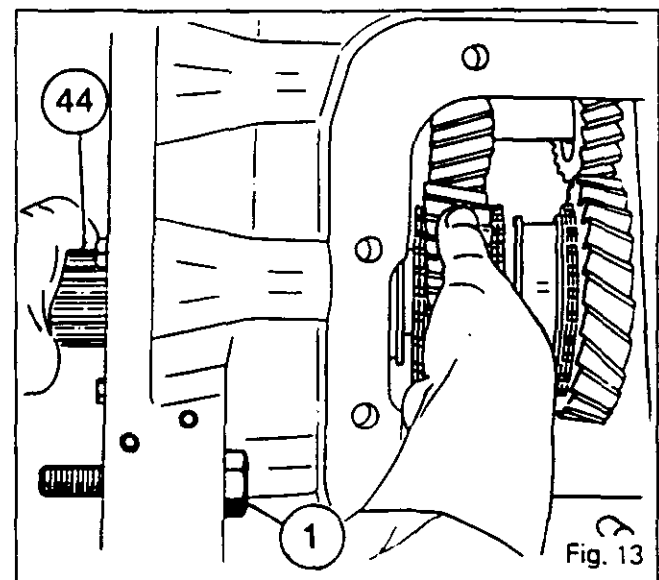

Fig. 13
3. If necessary, remove the bolt (1) (see Fig. 13).
39. Remove the circlip (45).
42. Remove the bolts (41) and the locking ring (46).
43. Remove the cup (48), cones (40) and (39), and the shaft (44).
44. Fit the following in the housing: the Tortoise gear (36), the synchromesh and its rings (33) and (74), the thrust washer (32), the gear (29) with its needle-roller bearings (30) and (28) and its synchromesh cones (75) and (76), thrust washer (27) and synchromesh ring (25).
- Note:** If bush (35) shows signs of wear, replace the complete gear assembly. (The bush is reamed after fitting). If the combination bearings (30) and (28) are worn, replace the complete gear assembly. (Bearings are fitted in the factory).
45. Insert the output shaft (44) while holding the gear assembly in position (see Fig. 13).
46. Pull the shaft slightly back in order to expose the groove for the snap ring (34).
90. Fit the bolt (1) (Fig. 13), if fitted, and carry out procedures 33 to 38, in Section 5 X01.